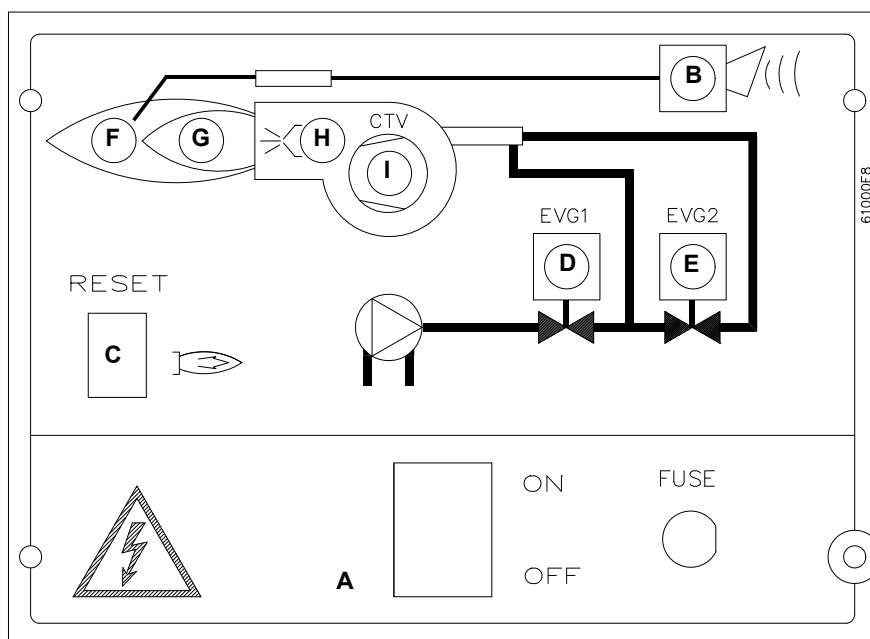

Fig. 10
- 4 Turn the burner on by means of its main switch **A** (Fig. 10): if the burner locks (LED **B** on in the control panel) press the RESET button (**C**) on the control panel (Fig. 10) - page 19;